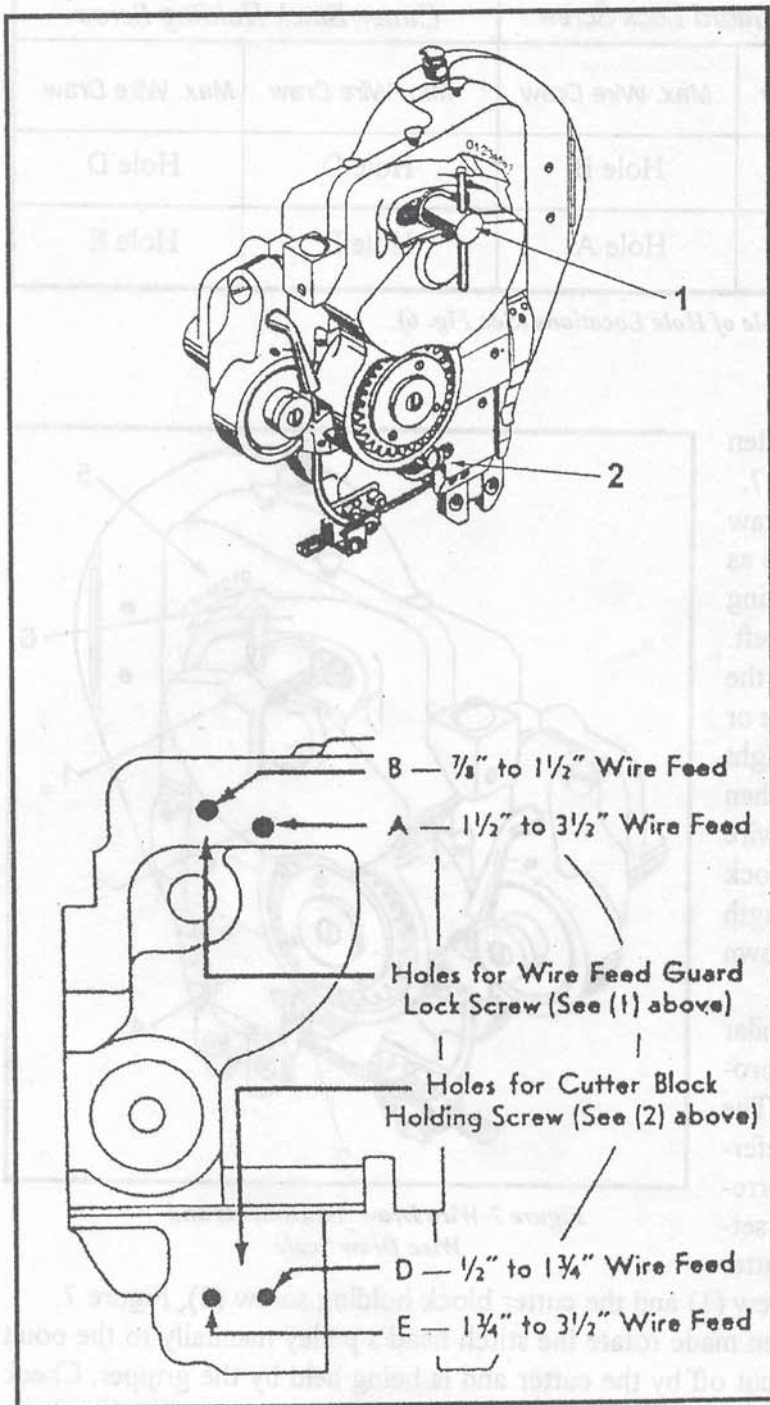
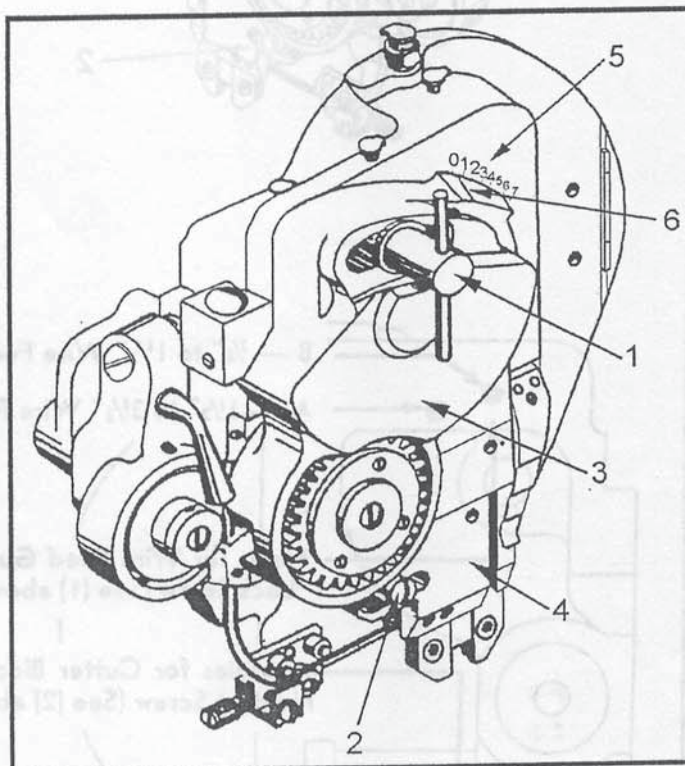

Figure 6-Positioning Wire Feed Lock Screw and Cutter Block Holding Screw
Figure 7-Wire Draw Adjustments and Wire Draw Scale
1. Check that the wire feed guard lock screw (1) and cutter block holding screw (2), Fig. 6, are in the correct head plate holes for the desired wire draw. The standard and long wire draw head plates have two tapped holes, (A) and (B), Fig. 6.
2. Both types of head plates have two tapped holes, (D) and (E), for insertion of the cutter block holding screw.
9. To increase or decrease the wire draw on the standard wire draw head shift the wire feed guard casting (3), Figure 7, to the right or left. As mentioned in the step above any shifting of the wire feed guard casting automatically adjusts the position of the cutter block so that both legs of the staple are increased or decreased an equal amount.
10. The standard wire draw heads are equipped with a 'length of wire draw' scale (5), Figure 7, on the head plate and an alignment marker (6), Figure 7, on the wire feed guard casting. The scale and marker provide a means of setting the wire draw according to the desired length. The 'length of wire draw' scale is used for a reference point only. The larger numbers correspond a to longer leg length.
5. The diagram in Figure 6 shows the four holes and gives the obtainable wire draw range for each hole.
6. If it is found necessary to relocate the wire feed guard lock screw (1) and the cutter block holding screw (2) remove both screws and then shift the wire feed guard casting sufficiently to the left or right, as required, so that the wire feed guard lock screw (1) can be inserted into the alternate hole, A or B. Do Not tighten the screw at this point.
7. The standard wire draw head is so designed that the cutter block (4), Figure 7, automatically shifts to the left or right when the wire feed guard is shifted. If the head being operated is this type relocate the cutter block holding screw (2) in the alternate hole, D or E, Figure 6, and tighten the screw at this point. If the head being operated is the long wire draw type the cutter block must be shifted manually. Move the cutter block as required and relocate the holding screw (2) with its washer. Do Not tighten the screw at this point.
8. If it is not necessary to relocate the wire feed guard lock screw (1) and the cutter block holding screw (2), and the head being operated is the standard wire draw type loosen (do not remove) only the wire feed guard lock screw (1). If the head is the long wire draw type loosen (do not remove) both screws.
11. After the setting has been made tighten the wire feed guard lock screw (1), Figure 7.
12. A 'length of wire draw' scale, similar to that on the standard wire draw heads, is provided on the long wire draw head plates. The 'length of wire draw' scale is used for a reference point only. The larger numbers corresponding to longer right leg lengths. After setting the wire feed guard casting and the cutter block tighten the wire feed guard lock screw (1) and the cutter block holding screw (2), Figure 7.